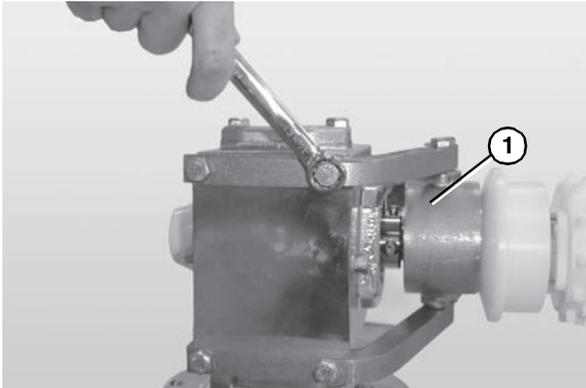

Figure 60
4. Unbolt the drive assembly and slide it off the bearing spindle (**Figure 60, item 1**). Retain key from spindle keyway.